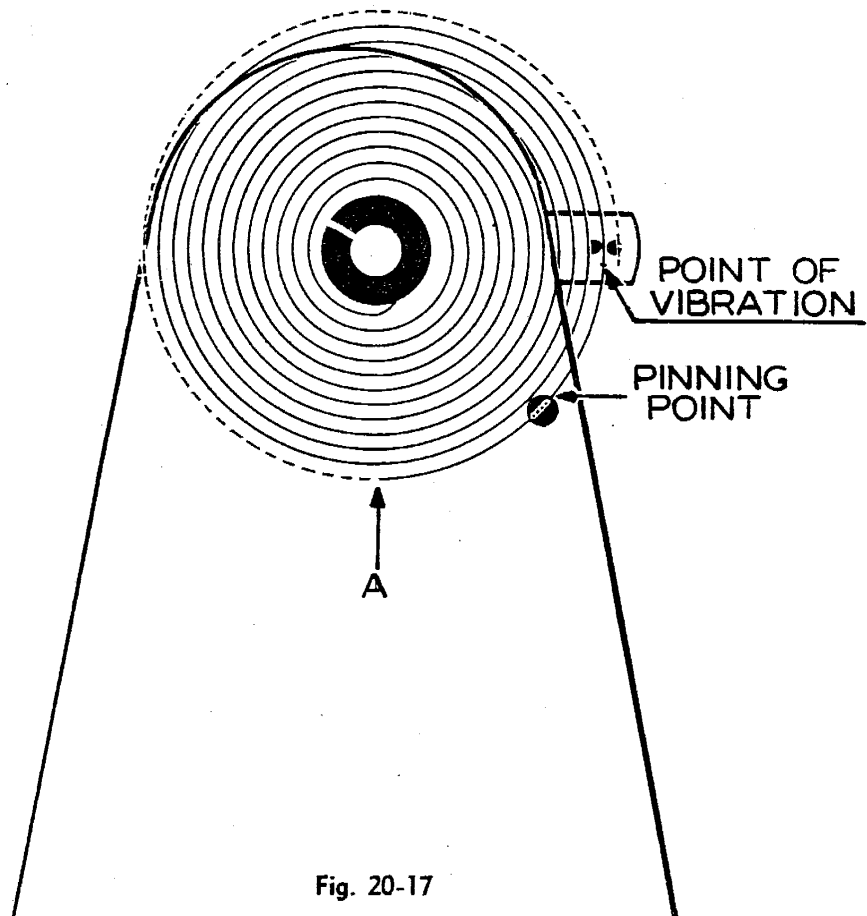

Fig. 20-17
1. Pin the hairspring to the stud. Screw the stud in the cock and slide the outer coil of hairspring through the stud, figure 20-17. Pin the spring with a brass pin just as you did when you pinned the collet.
Figure 20-17 shows about where the outer terminal pinning point will be when the regulator pins are slightly apart as in the average watch using a flat hairspring. The pinning point is at the stud. The point of vibration is near the regulator pins. The center of the hairspring collet will not be over the center of the balance jewel at this time.
2. After pinning the hairspring to the stud, break off the outer coil at A, figure 20-17. Leave the excess of spring shown in case of further adjustment